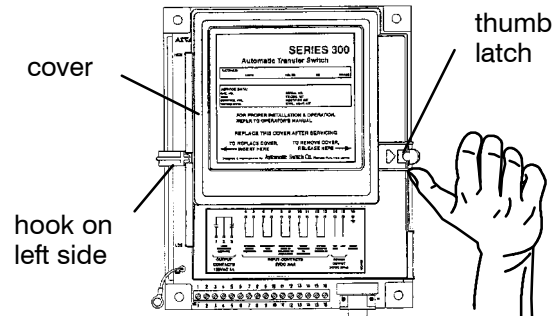

Figure 5. Group 1 Controller cover latch.
1. Remove the cover from the controller by releasing the latch on the right side with your thumb. See Figure 5.